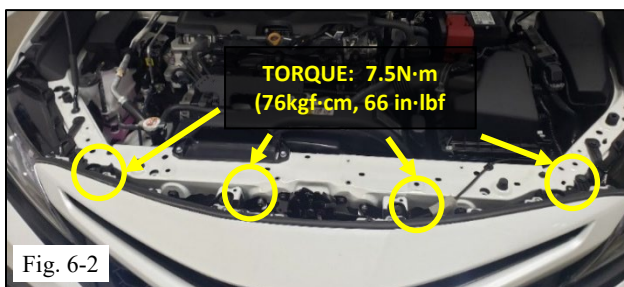

Fig. 6-2
- (b) Secure the bumper assembly to the frame using the (4) 10mm bolts previously removed (Fig 6-2).